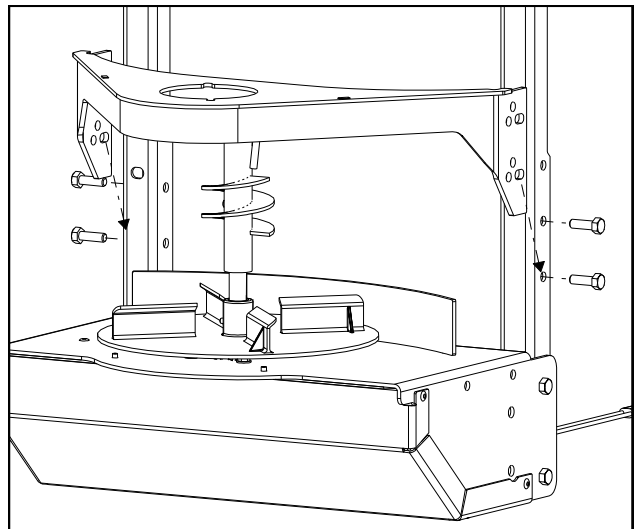

Fig 1.3
- 1.3 Mount the throat support to the support frame at the 2 lower holes by using the four supplied 5/16" x 1" cap screws and 5/16" locknuts. Tighten the fasteners according to the torque chart. As shown in figure 1.3.